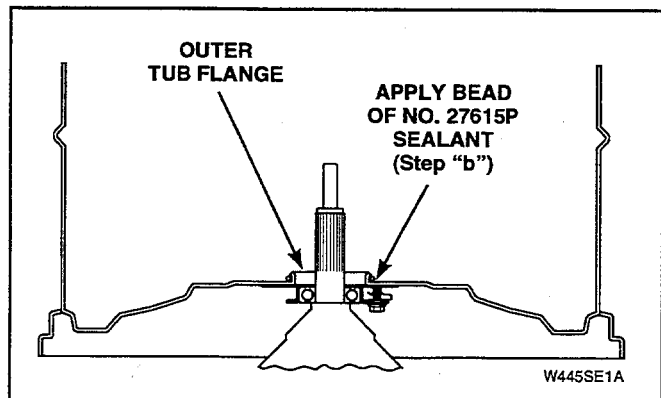

Figure 5-30
- Apply a small amount of No. 27615P Sealant (3M800) (obtain from local Parts Distributor) around outer surface of tub flange. See Figure 5-30.